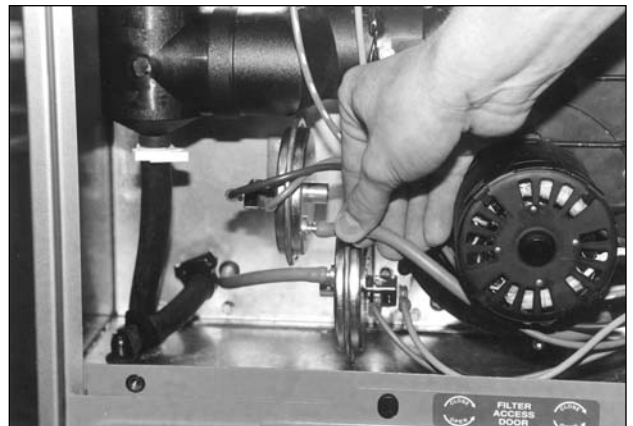

FIGURE 2
6. Disconnect the pressure switch hose which runs to the induced draft blower. See Figure 2.